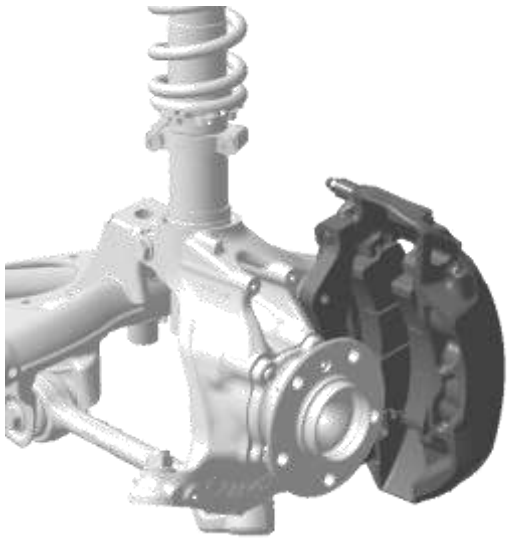

Figure 2.14.2: Braking system FA
- Braking system (figure 2.14.2)